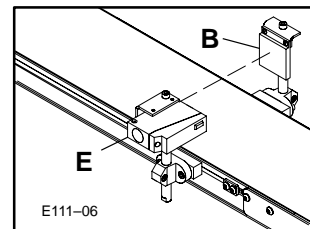

Figure 6: Photo-Eye & Reflector Alignment Detail
3. Line-up the Photo-Eye and Reflector assemblies to enable optimum sensing and signalling capabilities (Figure 6).